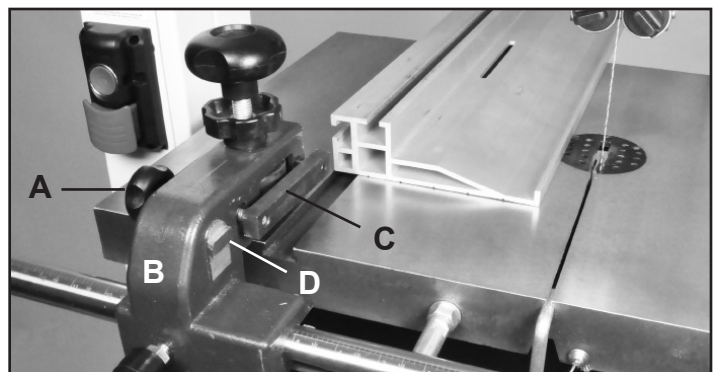

FIGURE 7
1. Loosen the side Handle (#7, Fig. 7, A) which holds the rip fence against the Fence Carrier (#9, B).
2. Slide the fence forward to remove it from the carrier's Sliding Block (#11, Fig. 7, C).
3. Turn the fence down to its horizontal position and slide it back onto the carrier. The bottom of the fence is slotted to mount on the sliding block, and position itself on the small, raised key on the side of the carrier. Fig. 7, D.